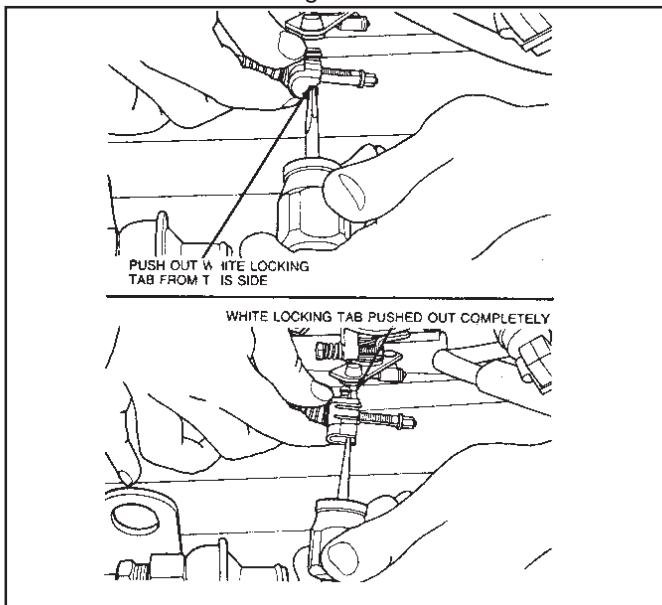

Figure 27
7.11 Push out locking tab. **(See Fig. 27.)**